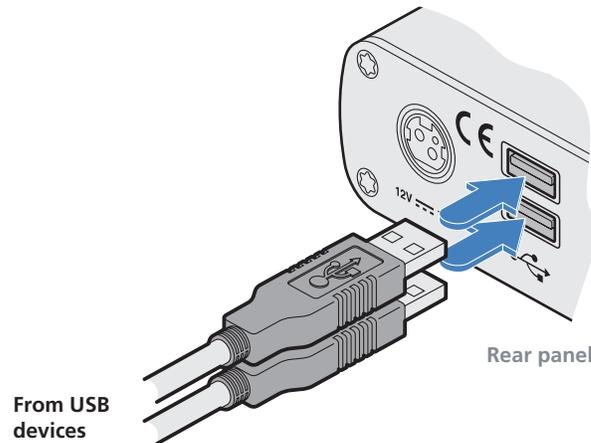

Figure 3-9. Connecting USB devices on the rear panel.
1. Connect your USB keyboard, mouse and any other two USB devices to the four sockets distributed on the front and rear panels of the remote module. See Figures 3-9 and 3-10.